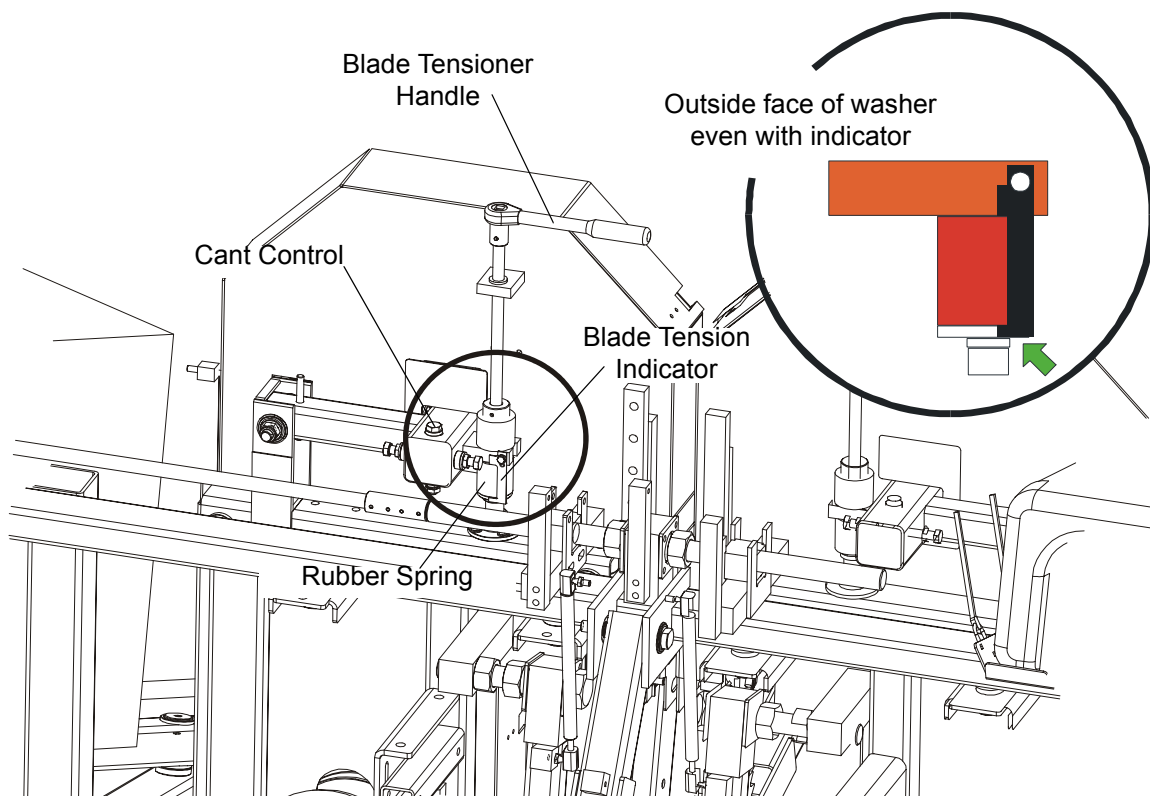

FIG. 2-4
See **Figure 2-4**. Place the provided handle on the blade tensioner shaft. Turn the handle clockwise until the outside face of the rubber spring washer is even with the indicator (see the figure below). Check the blade tension occasionally when adjusting the cant control or while cutting and adjust if necessary. As the blade and belts heat up and stretch, the blade tension will change. Also, ambient temperature changes can cause tension to change.
5. Use the cant adjustment bolt, shown in **Figure 2-4**, to adjust where the blade travels on the blade wheels.